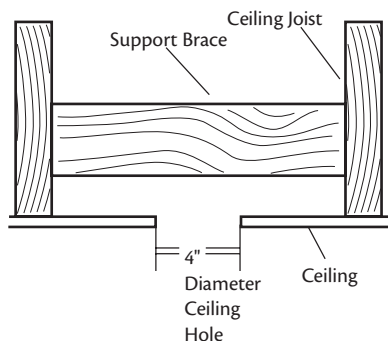

Figure 5 - Cutting the ceiling hole
2. Cut a 4" diameter hole through the drywall or plaster of the ceiling as shown in Figure 5. You will use the hole to install the support brace and outlet box.